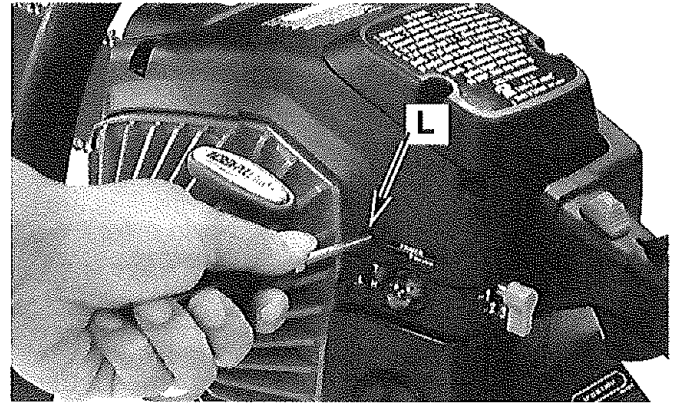
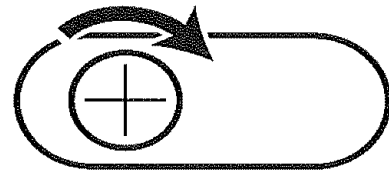

Fig. 8
Fig. 9
6. Then move the **red choke lever (H)** to Position 2, being sure to keep the throttle trigger locked. Hold saw firmly and pull rope until saw starts. This could take 4 more pulls.
7. Let the saw warm up for 10 seconds. Depress and release throttle trigger (D) for idle.
8. Move **red choke lever (H)** to Position 3. Press throttle trigger to begin sawing.
10. If unit idles roughly, there is an idle adjustment access hole (L) (Fig. 8). Using a Phillips or flat head screwdriver, turn screw 1/4 to 1/2 turn clockwise (to the right). Unit should then idle properly (Fig. 9).